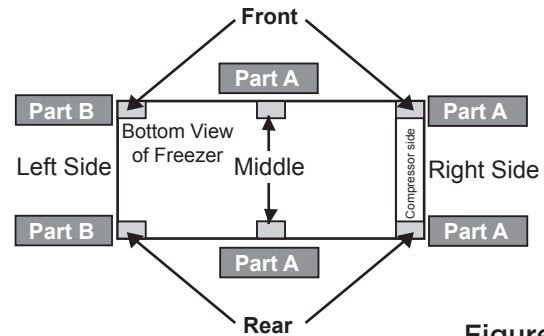

Figure 1
4. Remove casters and screws from the caster kit. The Part A casters are installed on the right front and rear compressor side of the appliance. The Part B casters are installed on the left front and rear of the appliance (with brake lever facing outside). Align the caster holes with the corresponding screw holes in the mounting locations. See Figure 1.